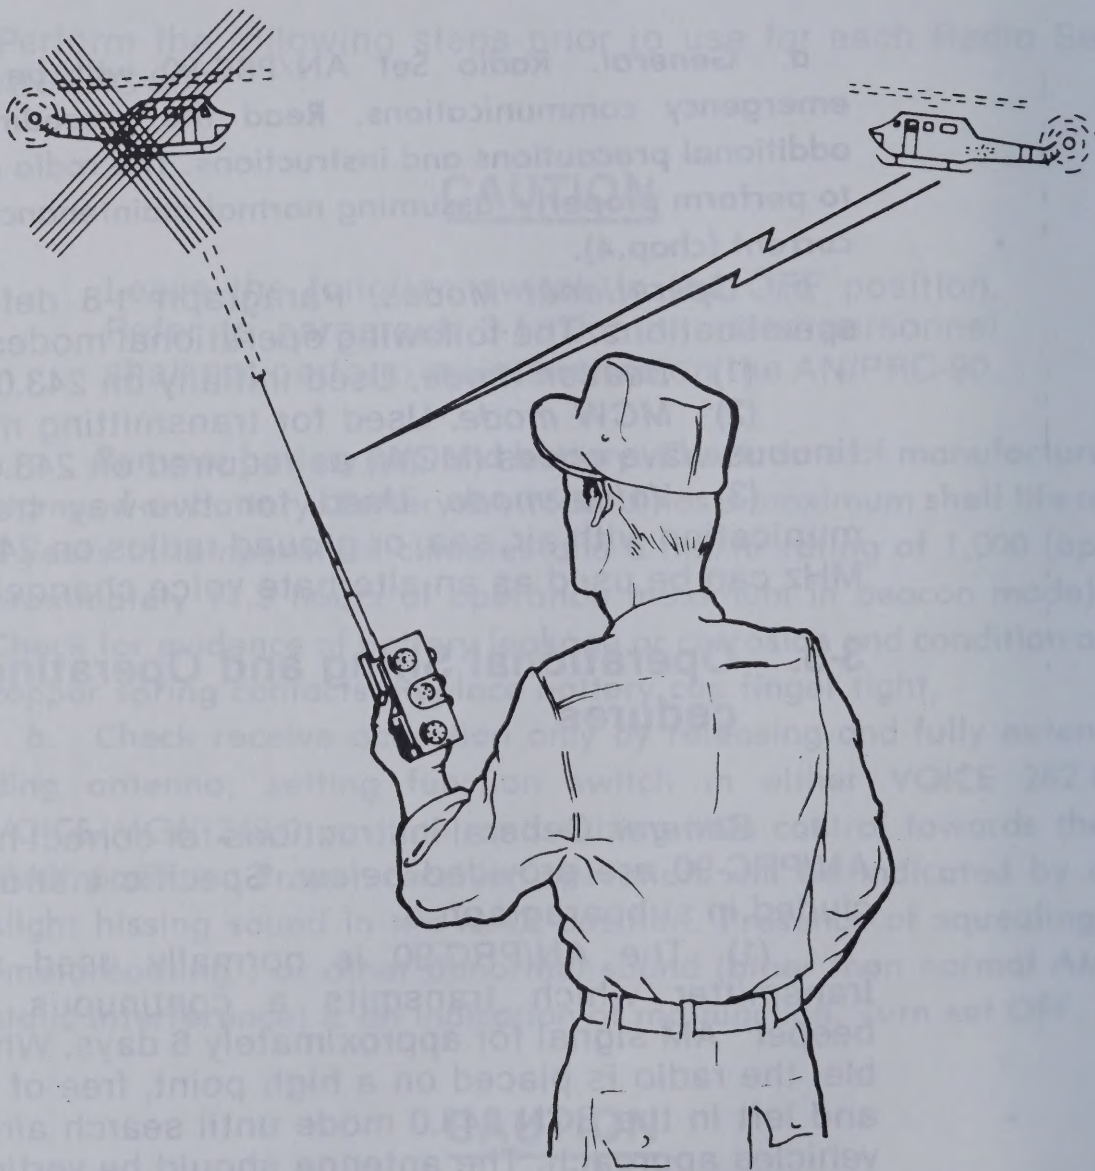

Figure 3-2. Antenna orientation.
(1) The AN/PRC-90 is normally used as a beacon transmitter which transmits a continuous, "down-going beeper" AM signal for approximately 6 days. Whenever possible, the radio is placed on a high point, free of obstructions, and left in the BCN 243.0 mode until search aircraft or other vehicles approach. The antenna should be vertically oriented (perpendicular to the search vehicle radio) as shown in figure 3-2.
(2) If a search vehicle appears near the operator he may use one of two voice channels or transmit international Morse Code (MCW) to communicate with the search vehicle.